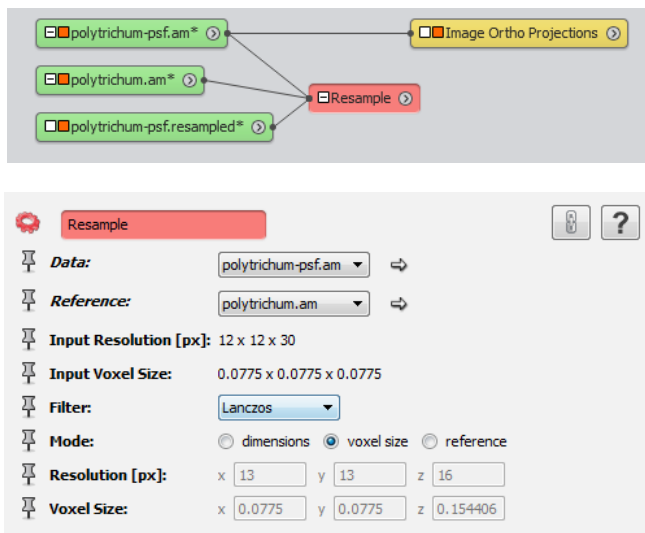

Figure 3.37: Maximum intensity projection of *polytrichum-psf.am*
- In the *Mode* port of the *Resample* module, choose *voxel size* (see Figure 3.37).